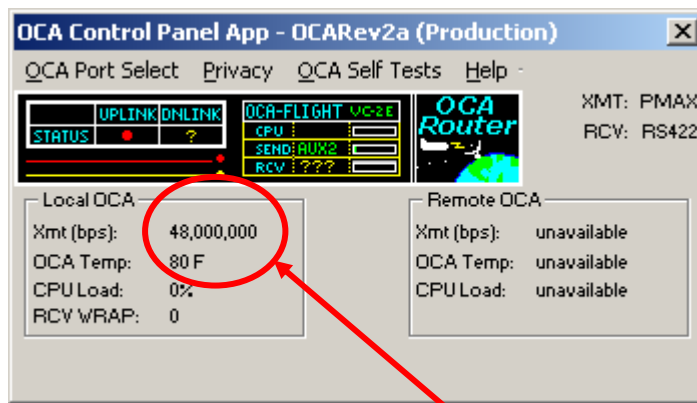

Figure 1
- C. In step 3, after setting the OCA rate, verify on the OCA Control Panel App, bottom left side, that “Local OCA / Xmt (bps)” displays “48,000,000” (ref figure 1)
After reboot, verify OCA Xmt rate is still 48,000,000 (ref figure 1).